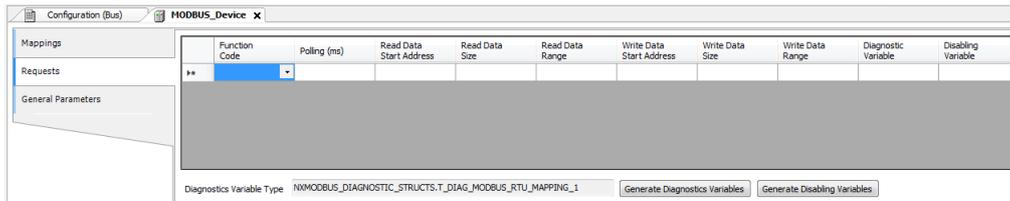

Figure 73: Data Requests Screen MODBUS Master
- Add and configure the MODBUS requests as presented in Figure 73, specifying the function, the scan time of the request, the starting address (read/write), the data size (read/write) and generate diagnostic variables and disabling the request via the buttons at the bottom of the window.